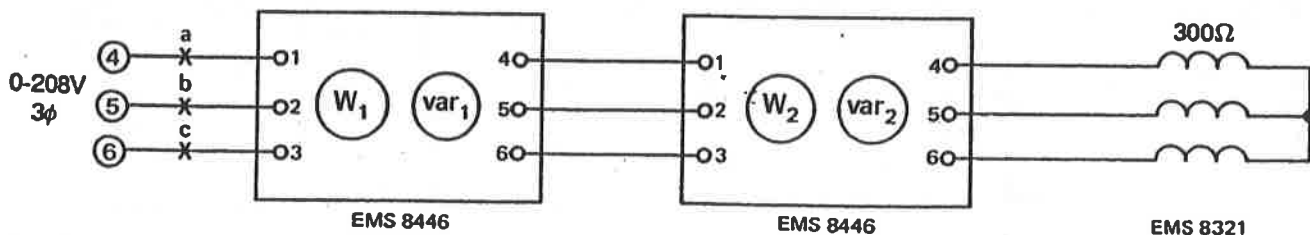

Fig. 4-5
□ 4-1) Connect two watt-varmeters in series to the variable three-phase 208 V power supply and apply a three-phase inductive load of 300 ohms, wye connected, as shown in Fig. 4-5. Adjust the power supply output to 208 V. Particular care should be taken in connecting so that the proper phase sequence is applied to the watt-varmeters.